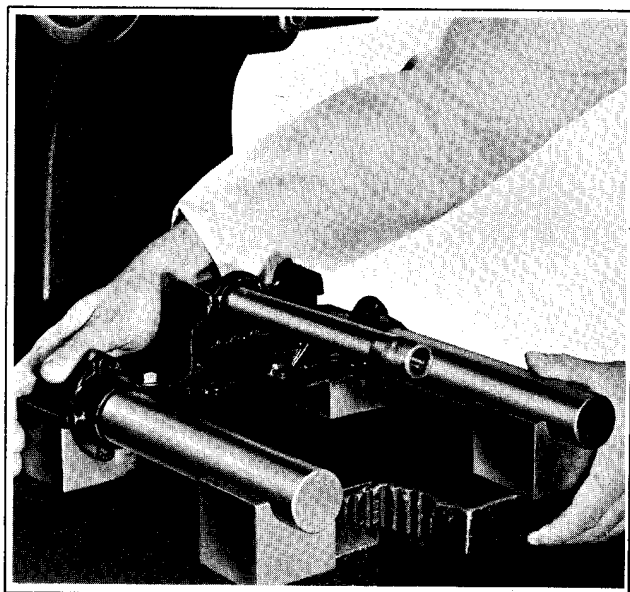

Figure 2-31. Checking Bracket Alignment
4. Place the fork stem and bracket assembly on the four straightening blocks located on the surface plate (see Figure 2-31). If the legs rest squarely on straightening blocks, the bracket assembly is correctly trued on a horizontal plane. If bracket is not true, press again, checking alignment after each operation.